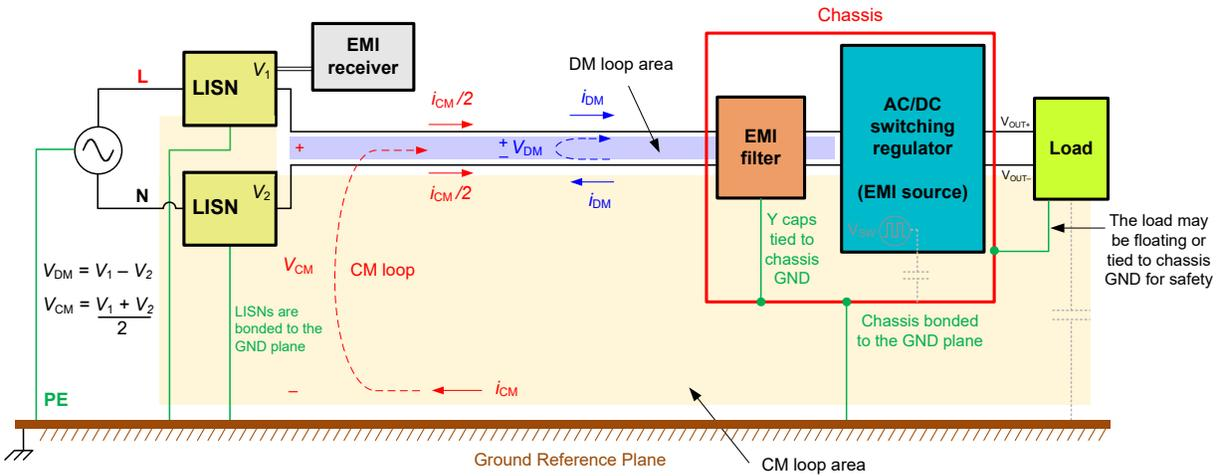

Figure 2-2. EMI Measurement Setup for a Single-Phase System
Figure 2-2 shows a typical EMI measurement setup. A line impedance stabilization network (LISN) in series with each supply line enables measurement of the total EMI that includes DM and CM propagation components. A splitter/combiner can be used to extract the DM and CM noise signatures from the total noise measurement.
The AC/DC regulator has internal high-dv/dt switching nodes that can capacitively couple CM noise to the chassis. As such, verifying the Y-capacitors in the EMI filter are closely referenced to the chassis is imperative, as illustrated in Figure 2-2. The Y-capacitors can then return the CM noise current back to the noise source in a tight conduction loop. Otherwise, the noise current can flow in the reference ground plane back to the LISNs, rendering the EMI filter less effective.
- When testing a power stage that includes a chassis as illustrated in Figure 2-2, CM noise can capacitively couple to the ground reference plane (GRP) of the EMI measurement setup and thus bypass a filter circuit that is not closely referenced to the GRP. In this case, TI recommends bonding the GND plane of the filter EVM directly to the GRP. This also serves to minimize parasitic inductance in the GND